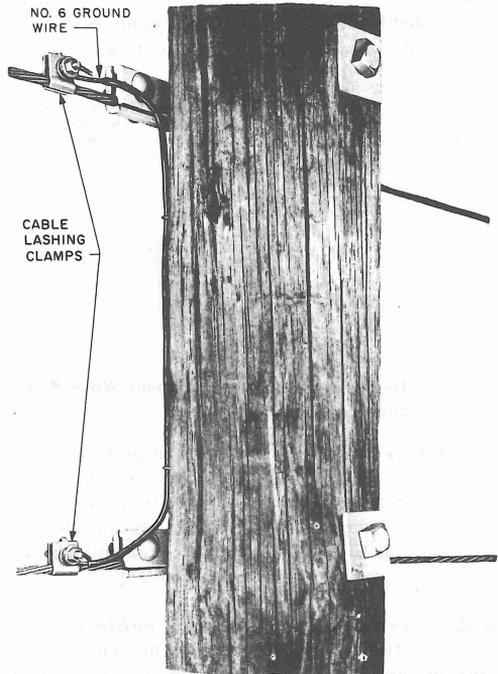

Fig. 25—Bonding Parallel Strands
4.12 Parallel strands supported on separate suspension bolts shall be bonded as shown in Fig. 25. Parallel strands supported on the same suspension bolt are electrically connected through the suspension bolt and additional bonding is not required. Bond at points specified on the work print.